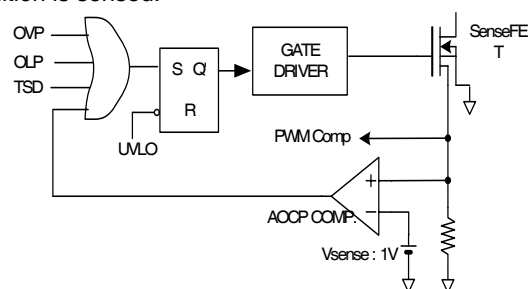

Figure 25. AOCp block
3.1 Abnormal Over Current Protection (AOCP): When the secondary rectifying diodes or the transformer pins are shorted, a steep current with extremely high di/dt can flow during the LEB time. Therefore, the abnormal over-current protection (AOCP) block is added to ensure the reliability, as shown in Figure 25. It turns off the SenseFET within 300ns after the abnormal over-current condition is sensed.